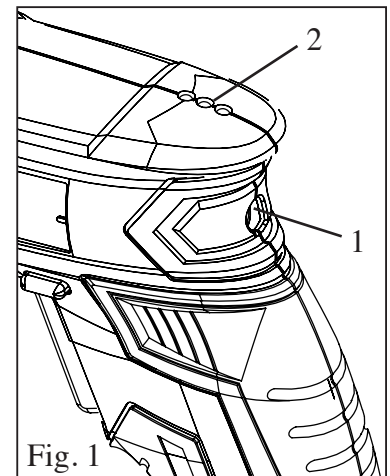

Fig. 1
2. Plug the charger into a 120V AC power source, connecting the other end to the receptacle on the back of the screwdriver (Fig. 1 - 1).
3. The power indication lights (Fig. 1 - 2) indicate the power level during charging. Three lights means the tool is fully charged.